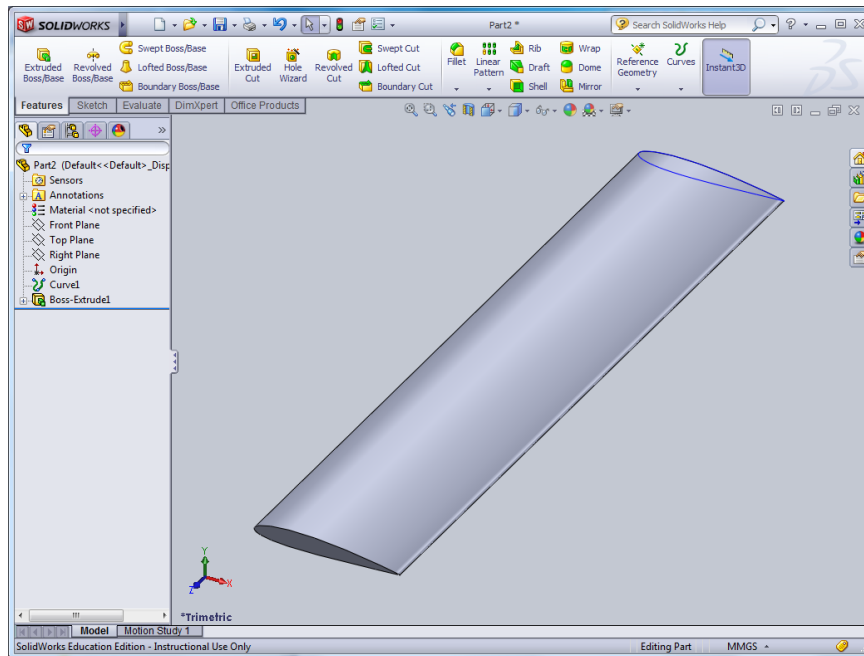

Figure 4: The Extruded Aerofoil
9. You can now extrude the sketch as normal. You should end up with something like Figure 4